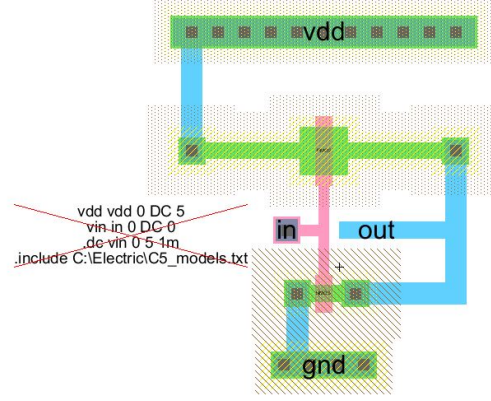

Figure 9: Layout of inverter in question 1
3. Answer to question 3: By changing the technology scale to $233.33\mu m$, and using the scaling factors, $W_N = 3, L_N = 3, W_P = 9, L_P = 3$ a layout of the inverter was made as in figure 9.